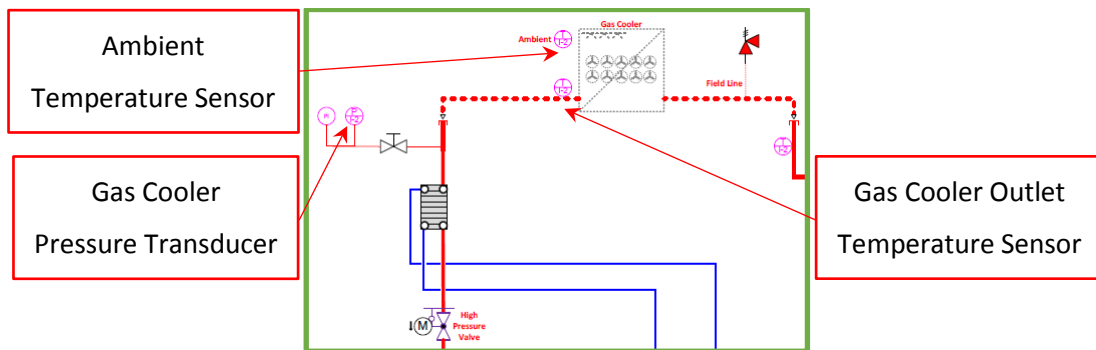

Figure 7.3 – Gas Cooler and Pressure Transducer / Temperature Sensors
The high pressure (HP) valve, refer the Figure 7.3, throttles the refrigerant from the discharge pressure down to a pre-determined MT receiver pressure, say 40 bar(a) or 5.3°C equivalent, which is at a state of mixture of the liquid and vapour.
The two phase FG enters the superheater plate heat exchanger (PHE, where fitted), has the liquid content burnt out and superheated by the liquid refrigerant on the other side of the PHE, before entering the MT compressors. Refer the Figure 7.3.